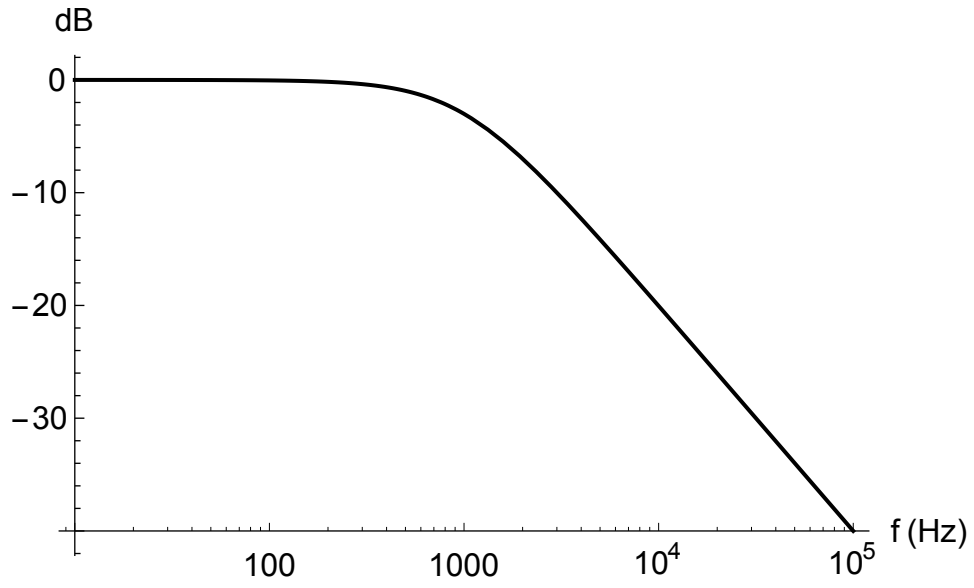

Figure 5: Bode amplitude plot for a low-pass RC filter.
- c. For each filter, plot the data and theoretical curves together. For the amplitude plots, use the decibel (dB) scale $20 \log_{10} A(\nu)$ for the vertical axis and $\log \nu$ for the horizontal axis as in Fig. 5. For the phase plots, use a linear vertical axis for the phase and $\log \nu$ for the horizontal axis as in Fig. 5. Determine the *breakpoint* or *characteristic* frequency from the data plots by identifying the -3dB point on the amplitude plot (also known as a Bode plot) and the 45° point of the phase plot. Compare these to the expected theoretical value. Draw conclusions about the behavior of both circuits.